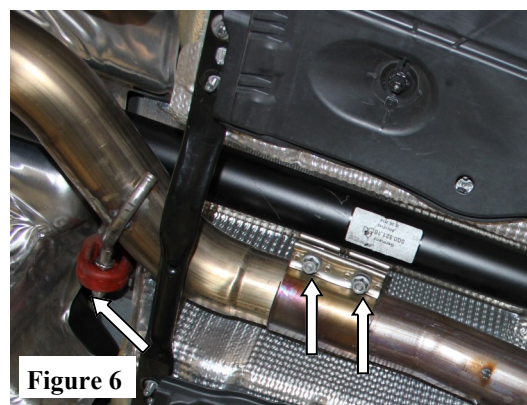

Figure 6
2. Place the original clamp over the front pipe Assembly. Orient and position of the pipe and insert the hangers into the rubber isolator. (See Fig.6)